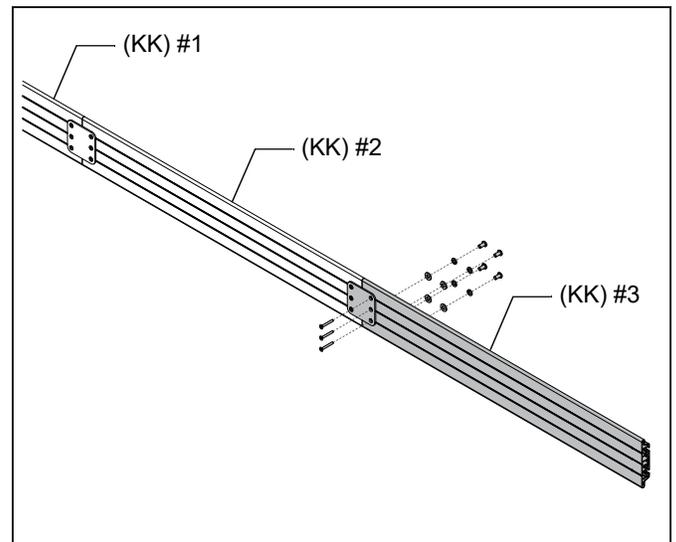

Figure 11
7. Repeat steps 1 through 6 to install the second mounting rail (KK) to the opposite end of the center rail. (See Figure 11)